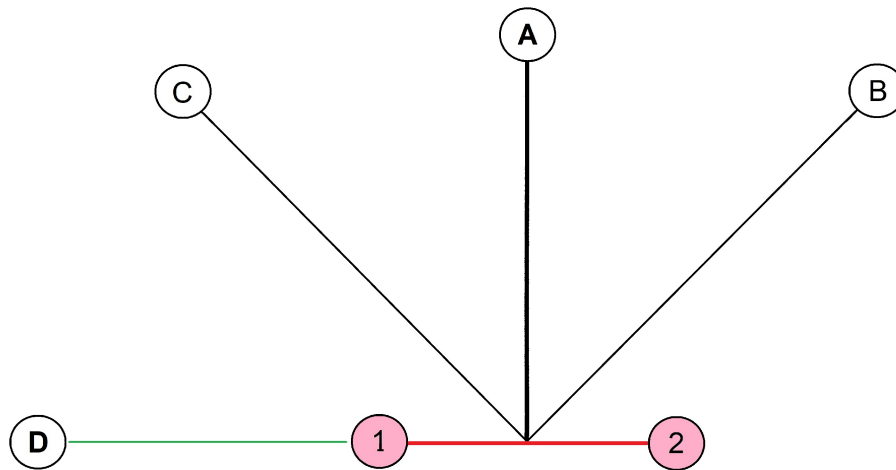
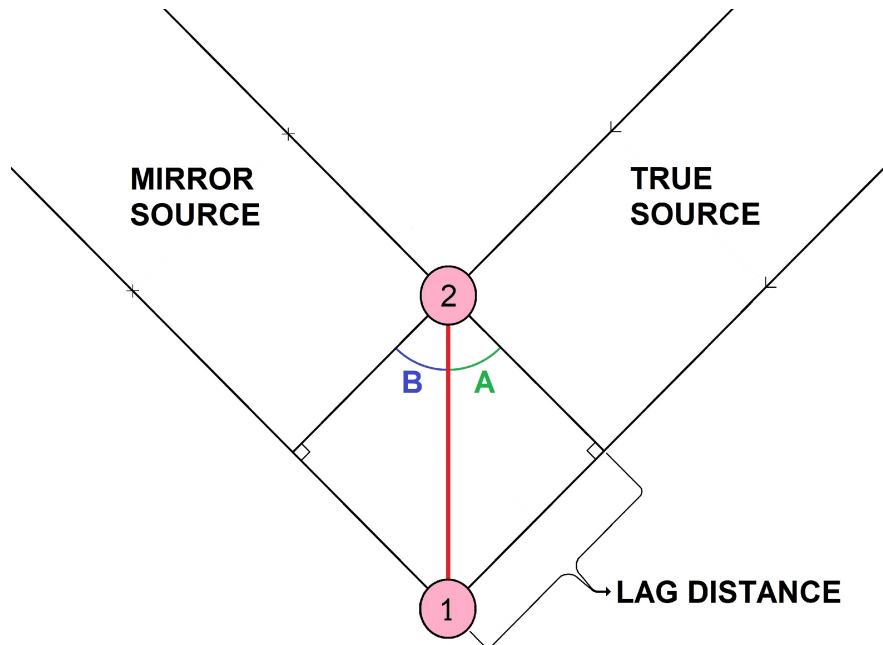

Figure 3.1
Figure 3.2
For each time shift, called a lag (L), the values of the first signal (x) are multiplied by the time shifted values of the second signal (y) and the N product terms are added. The lag step-size is determined by the sample rate; for example, if the signals are sampled at 20 kHz, lag values would change in increments of 50 microseconds. Consider Figure 3.1.
However there is a problem with the simple diagram in Figure 3.1. What if A was on the other side of the baseline? Could we tell this from the from sampled values at mic1 and mic2? The answer is no, we could not tell which side of the baseline the sound came from, the solution is ambiguous. There is always a second potential solution as shown in Figure 3.2. This is why the ROBOEAR has three microphones and three baselines which yield three ambiguous solutions from which we are able to produce one unique solution. The time difference between sounds arriving at
mic2 and mic1 is the same for sources on different sides of the baseline if they are at equal angles from the baseline, as shown by angles A and B in Figure 3.2. But how do we determine angle A?